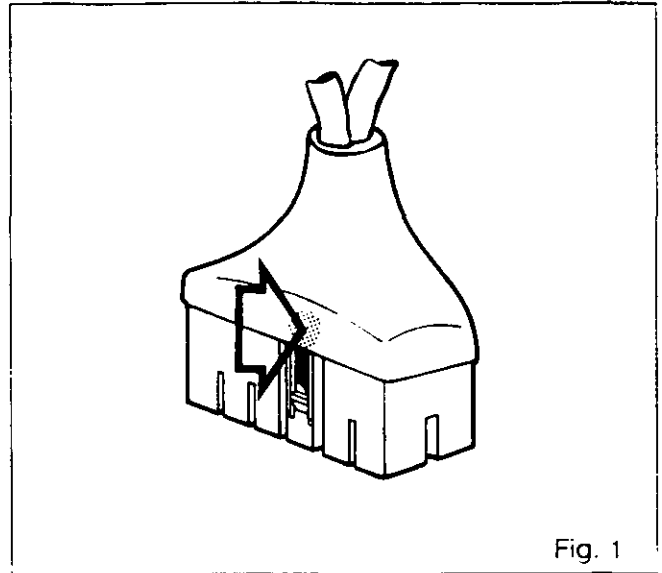

Fig. 1
**Caution :** To disconnect each connector, press the blade lock as shown by the arrow (Fig. 1).